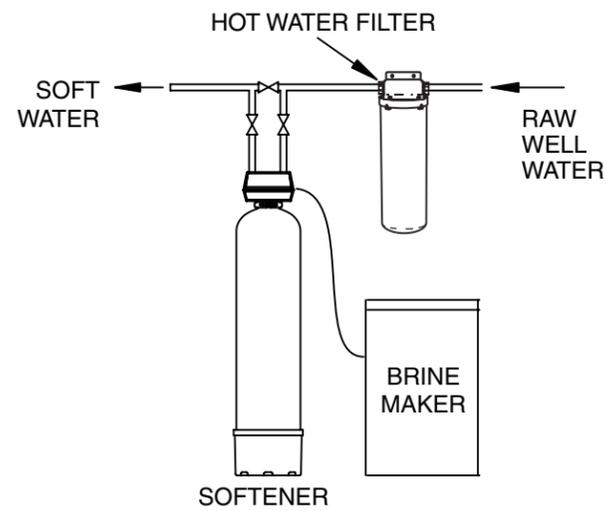

Figure 1. INSTALLATION SCHEMATIC
- 3) Locate in correct relationship to other water conditioning equipment (Figure 1).
Before commencing the installation, it is advisable to study the existing piping system and to determine the size, number and type of fittings required. Typical system schematics shown in Figure 1 will be of assistance.